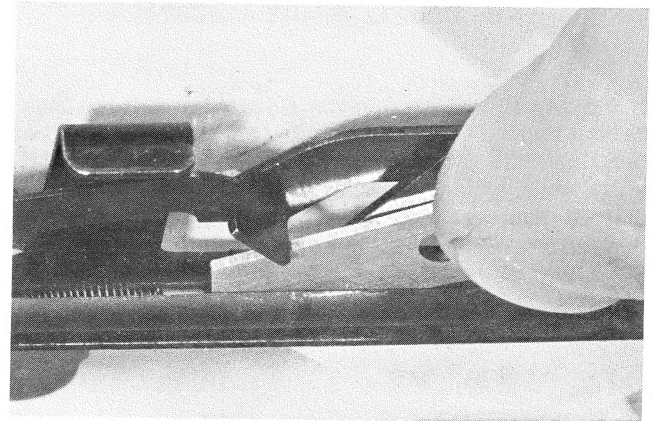
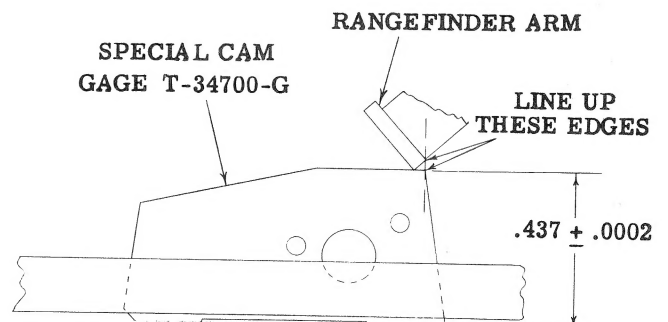

Figure 6. CAM INSERTING
Figure 7. MASTER CAM - PRE-INFINITY SETTING
b. Assemble the master cam gage in the cam slot (figure 6). The bed yoke must be back as far as possible. Assemble the yoke bracket and slide to a position that presses on the lower tube plunger to cause the master cam to line up with the edge of the rangefinder arm (figure 7).
e. Assemble the required lens cam (figure 6) and focus rangefinder at infinity and lock bed. Assemble rangefinder housing and secure with its mounting screws under normal tension. Check the image at infinity to be sure that it has not shifted due to assembly of the housing. Unlock the bed yoke and move forward to set the scales at the nearest marked distance. Check the rangefinder image at this distance measured from the film plane to the target.
h. Batteries are positioned in the rear rangefinder housing. Slip two penlite batteries into the openings, alternating top and bottom position. Replace the cover by slipping one end into the opening; press in the other end and move flush (figure 6). Lamp should light when red button on left is pressed.